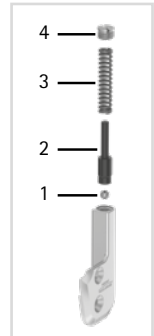

fig. 6
- 1 Assemble the functional unit. Mind the correct order: ball (1), pin (2), coil spring (3) (fig. 6).
- 2 Screw in the pressure screw (4) tightly. This fixes the ball, pin and coil spring in the spring duct of the cover plate.